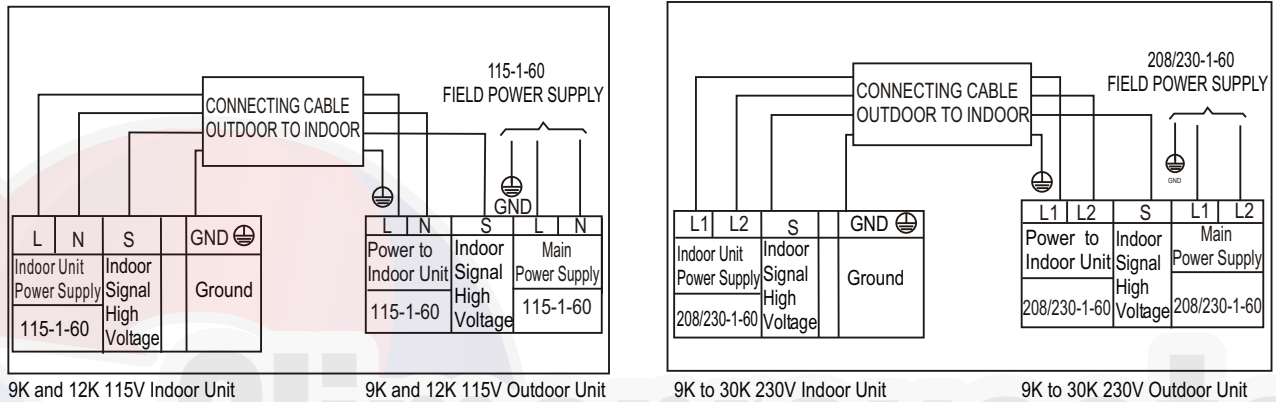

Fig. 11 – Connection Diagrams
- All connections between the indoor and outdoor units must be as shown in Fig. 11. **The connections are sensitive to polarity and will result in a fault code.**